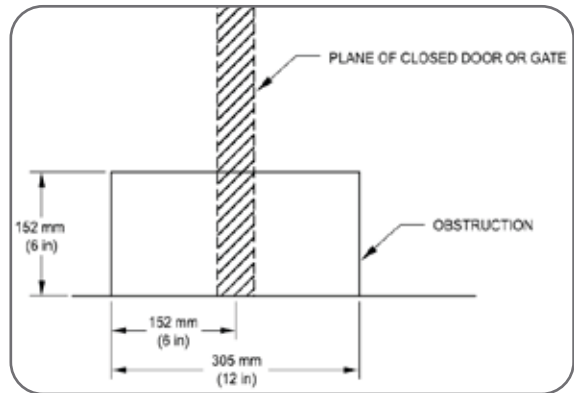

Fig.6.5.1
- Place an obstruction (white vertical surface 6 in. high by 12 in. wide) in the center of the opening, perpendicular to the plane of the door when in the closed position as per **Fig 6.5.1**.